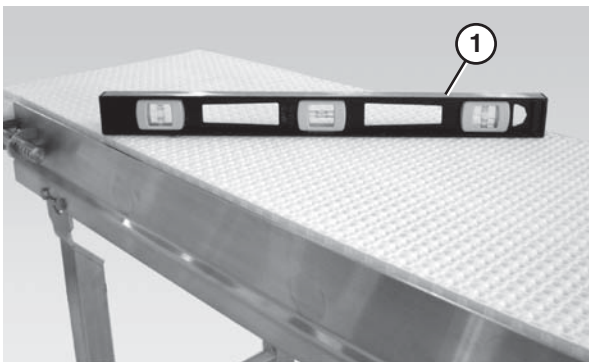

Figure 21
4. Use a level (Figure 21, item 1) to verify that both stand legs are the same height.